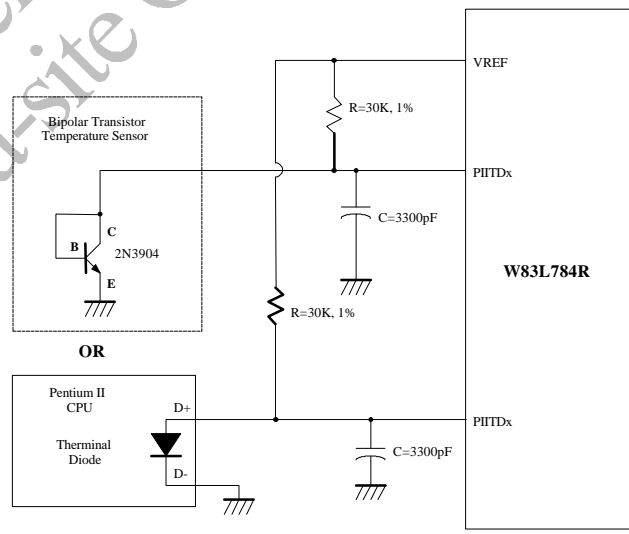

Figure 12.
The W83L784R can alternate the thermistor to Pentium II™ (Deschutes) thermal diode interface or transistor 2N3904 and the circuit connection is shown as Figure 12. The pin of Pentium II™ D- is connected to power supply ground (GND) and the pin D+ is connected to pin PIITDx in the W83L784R. The resistor R=30K ohms should be connected to VREF to supply the diode bias current and the bypass capacitor C=3300pF should be added to filter the high frequency noise. The transistor 2N3904 should be connected to a form with a diode, that is, the Base (B) and Collector (C) in the 2N3904 should be tied together to act as a thermal diode.